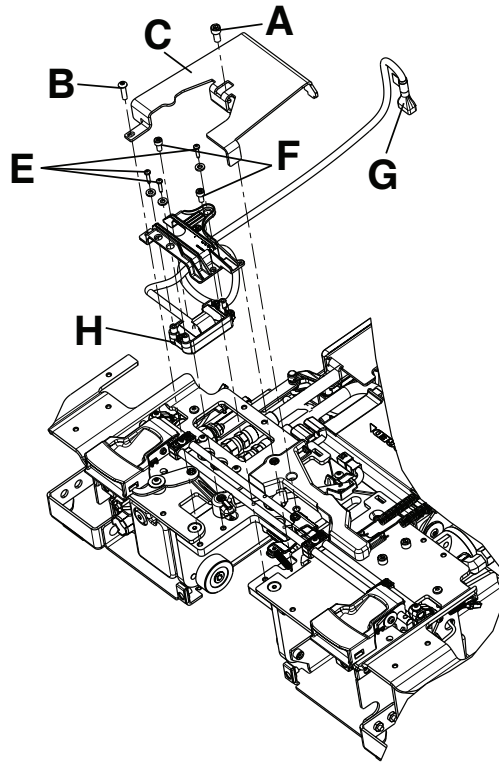

Figure 28 – Inductive coil assembly
2. Using a 5/32" hex wrench, remove the screw (A) that secures the inductive coil assembly to the frame (Figure 28).
3. Using a 3/16" hex wrench, remove the screw (B) that secures the inductive coil assembly to the frame (Figure 28).
4. Remove the cover (C) (Figure 28). Save for reinstallation.
6. Using a T25 Torx driver, remove the screws (E) that secure the charge bracket (Figure 28).
7. Using a 5/32" hex wrench, remove the screw (F) that secures the charge bracket (Figure 28).
9. Unplug the cable (G) from the trolley control board and remove the inductive coil (H) (Figure 28). Discard the inductive coil.